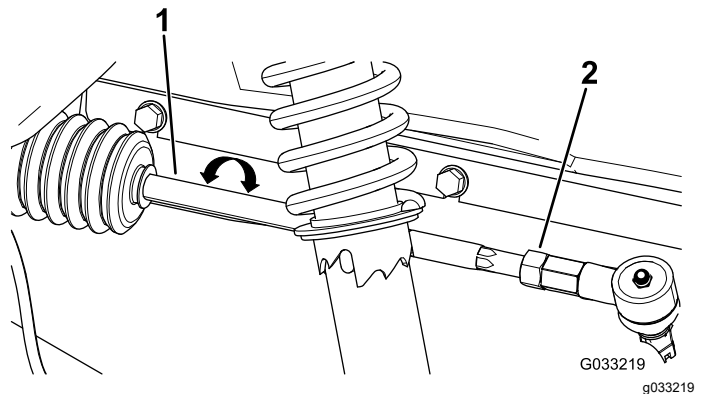

Figure 45
3. If the measurement does not fall within 0 to 6 mm (0 to 1/4 inch), loosen the jam nuts at the outer end of the tie rods (Figure 45).